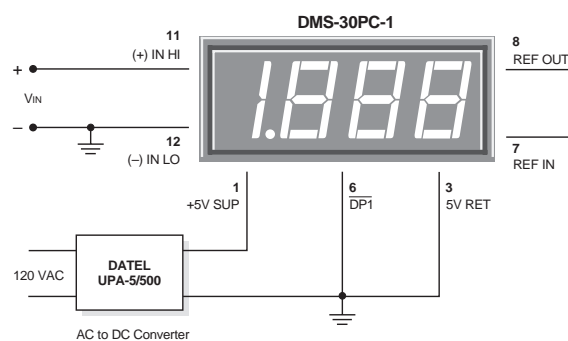

Figure 2. Single-Ended Input Configuration
1. **Single-Ended Input Configurations:** True single-ended measurements can be made with any DMS-30PC meter. The circuit of Figure 2 avoids problems normally associated with ground-loop currents. Separate ground runs should be used for 5V RETURN (pin 3) and (-) INPUT LO (pin 12). This will ensure that large LED currents will not flow in the wiring that connects V_{IN} to (-) INPUT LO (pin 12). Ground-loop currents can cause unstable readings.